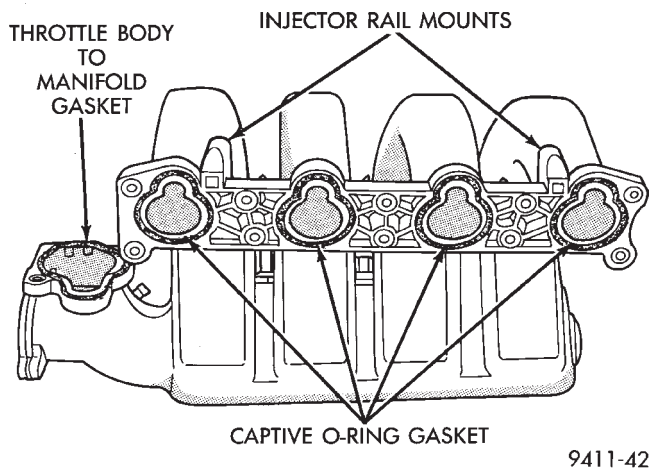

Fig. 123 Intake Manifold O-Rings—2.0L Engine
- Torn or missing O-rings at the mating surface of the manifold (Fig. 123).